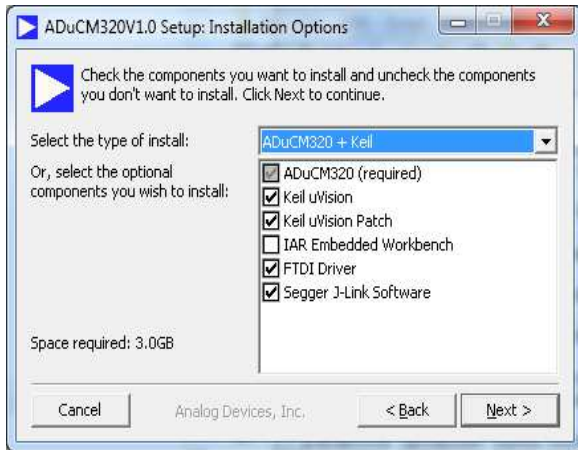

Figure 2. Installation Options
3. Double-click **ADuCM320.exe** and follow the on-screen instructions. A menu displays installation options as shown in Figure 2.